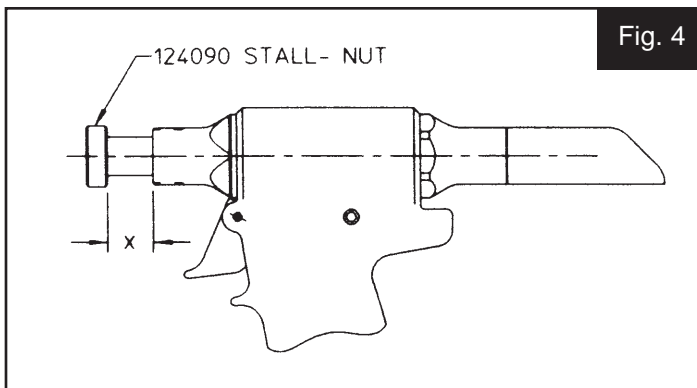

Fig. 4
2. With piston fully forward (end of RETURN stroke), bottom the stall-nut on piston. Back stall-nut off five (5) turns.
4. Release trigger. Stall-nut will move forward with piston. See *FIGURE 4* and measure "X" dimension. This is the tools stroke.